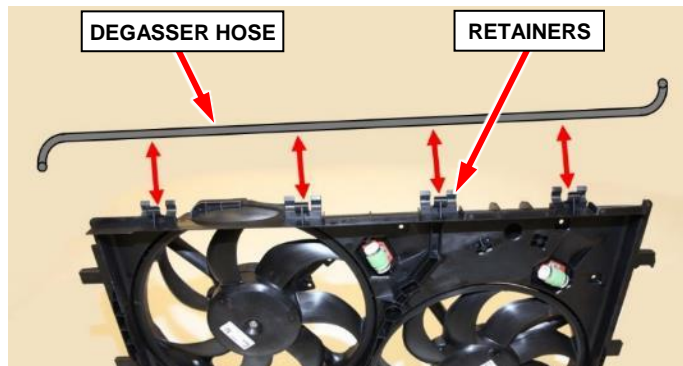

Figure 4 – Coolant Degasser Hose
6. Release the coolant degasser hose from the four retainers along the top edge of the cooling fan module then position the hose out of the way (Figure 4).
23. Install the coolant degasser hose to the four retainers along the top edge of the cooling fan module (Figure 4).